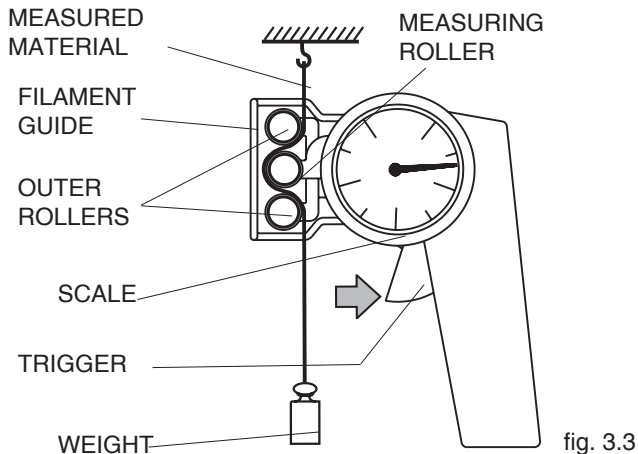

fig. 3.3
- Suspend a known weight that corresponds to the tension to be measured (pay attention to the correct unit of measure) from the MEASURED MATERIAL, vertically, as shown in fig. 3.3. (Always use a fresh portion of the MEASURED MATERIAL).